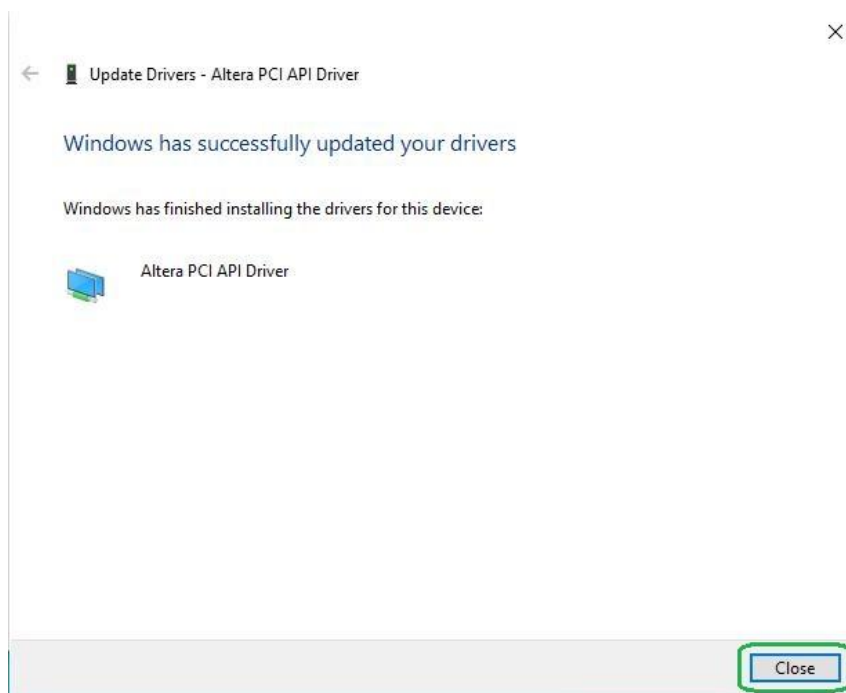

Figure 6-7 Click Close when the installation of PCI Driver is complete
11. When the driver is installed successfully, the successfully dialog will appear, as shown in **Figure 6-7**. Click the **Close** button.